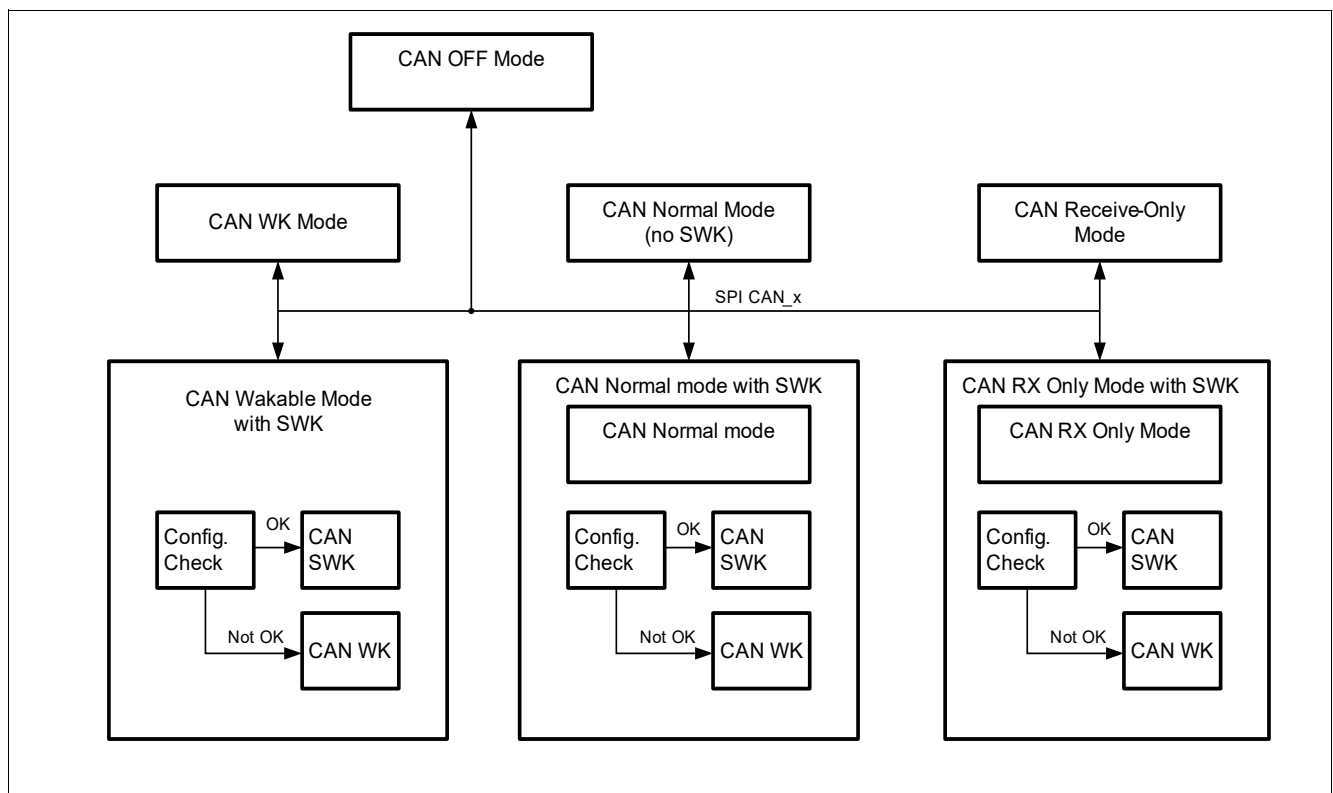

Figure 10 CAN SWK State Diagram
*Note: It is possible that WUF and WUP bit are set at the same time if a WUF causes a wake out of SWK, by setting the interrupt or by restart out of SBC Sleep Mode. The reason is because the CAN has been in WUP detection mode during the time of SWK mode (because of **t_{SILENCE}**). See also **Figure 10**.*
Figure 10 shows the possible CAN transceiver modes.